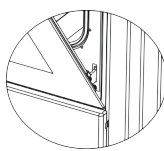

Figure 3.1
5. Lift the door so that it is in contact with the lock of the hinge, as shown in Figure 3.1.